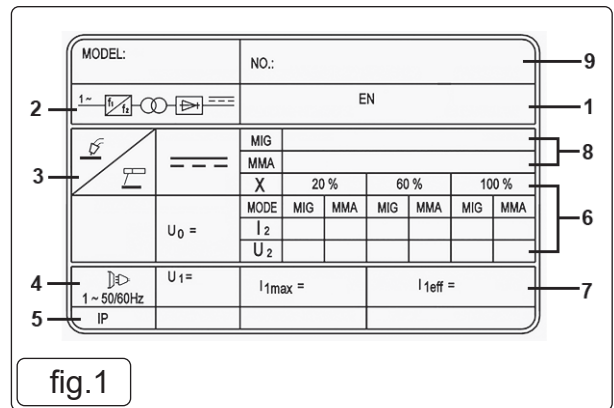

fig.1
**NOTE:** The rating plate detailed in fig 1 is an example only intended to assist with the explanations of the symbols. To determine the correct technical values of the welding set refer to the data plate on your machine and the specification table above.